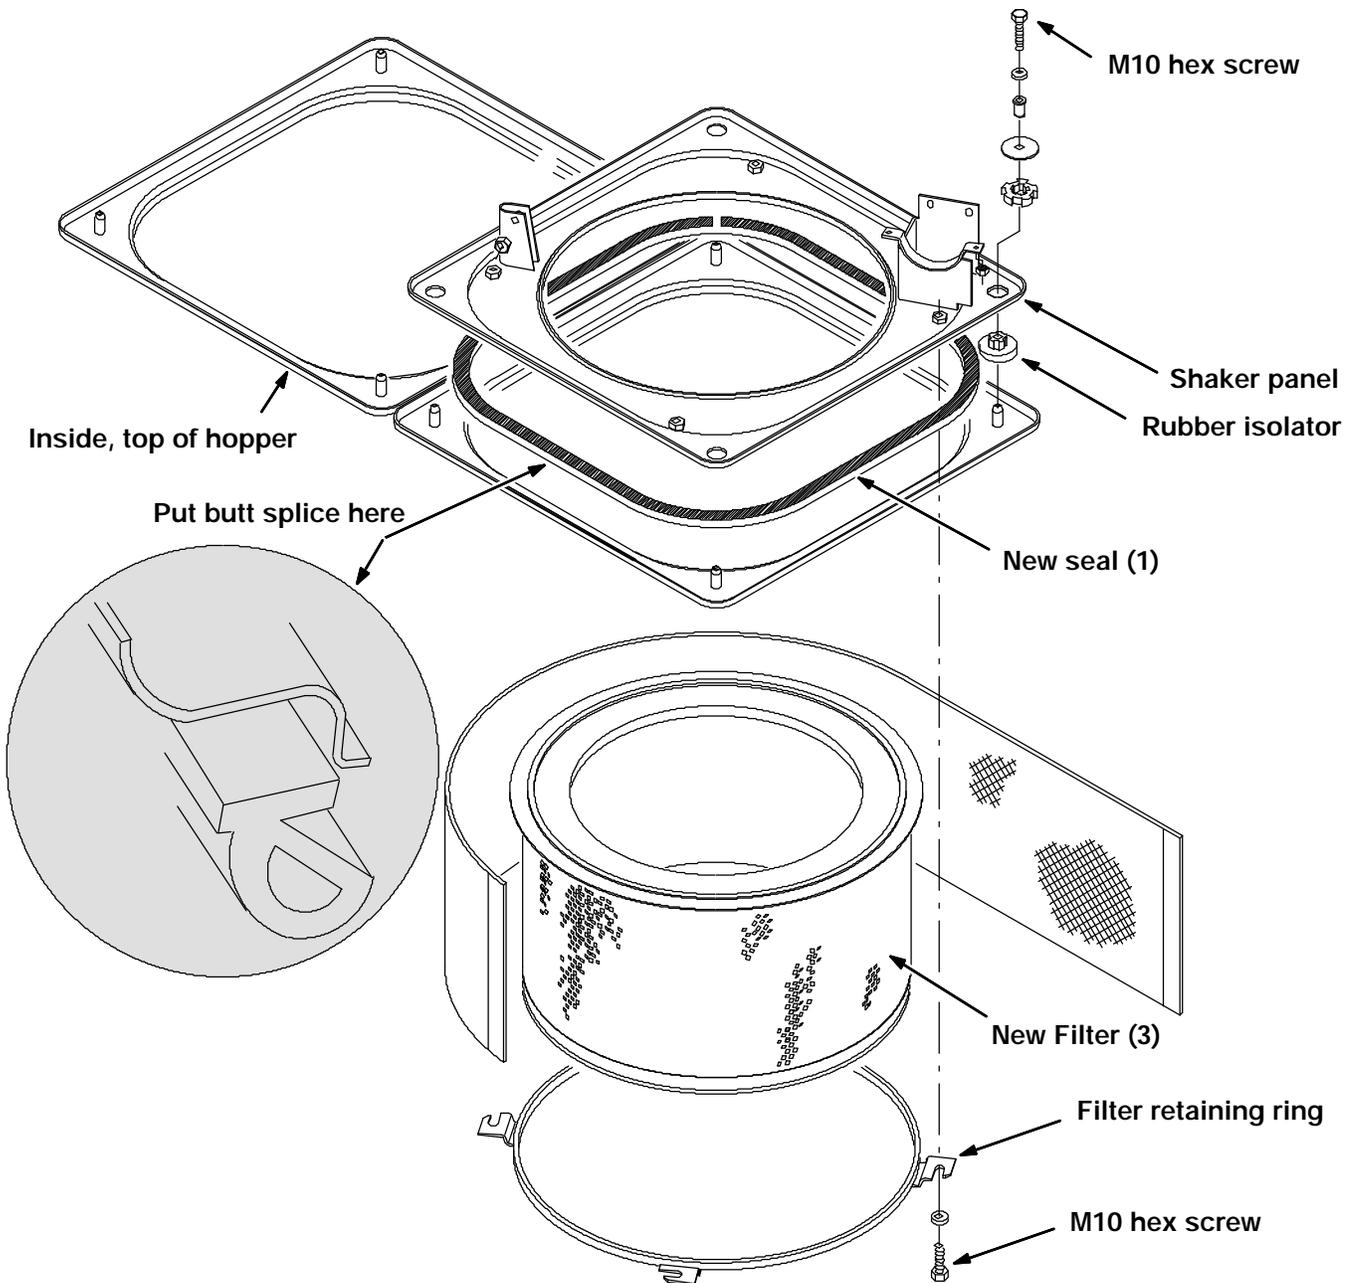

FIG. 1 - Filter Shaker Assembly And Seal
(Refer to FIG. 1)
3. Remove the four M10 hex screws holding each filter shaker assembly to the hopper. Remove the filter shaker assemblies from the hopper. (Refer to Fig. 1)
4. Loosen the four M10 hex screws holding each filter retaining ring to the shaker panels. Rotate the filter retaining rings and remove them from the shaker panels. (Refer to Fig. 1)
5. Remove the filters from the shaker panels. (Refer to Fig. 1)
(Refer to FIG. 1 and 2)
2. Apply the new seal (1) to the shaker panel. **DO NOT STRETCH THE MATERIAL.** Be sure to make the butt splice in the center of the straight area of the shaker panel, not the corners. (Refer to Fig. 1 and 2)
3. Seal the butt splice with the contact adhesive 3M #1357 (2) or something equal. (Refer to Fig. 1 and 2)
6. Position the new filters (3) into the shaker panels. (Refer to Fig. 1)
7. Tighten the four M10 filter retaining ring hex screws to 18 - 24 Nm (15 - 20 ft lb). (Refer to Fig. 1)
8. Reinstall the filter and shaker assemblies in the hopper. Tighten the four M10 filter assembly hex screws to 18 - 24 Nm (15 - 20 ft lb). (Refer to Fig. 1)